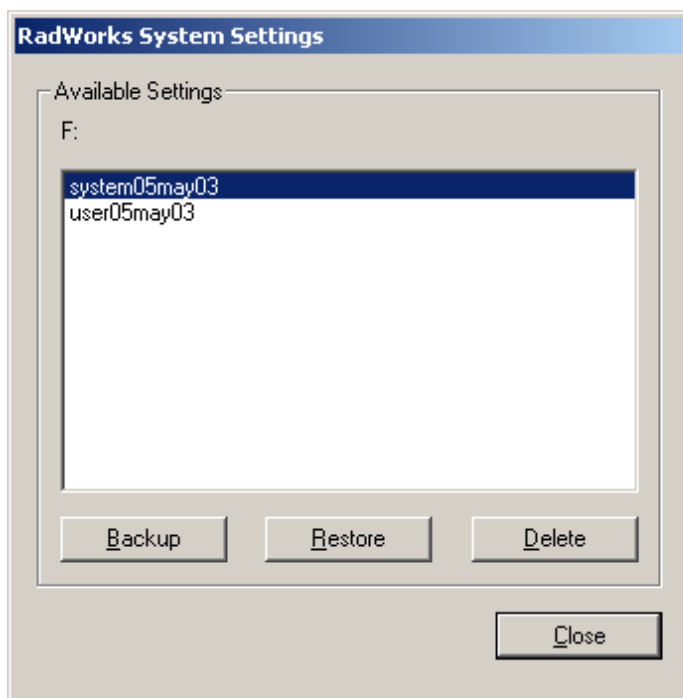

Figure 10-12 Restore RadWorks System Settings.
- 2.) Select the system settings from the Available Settings list (see Figure 10-12).